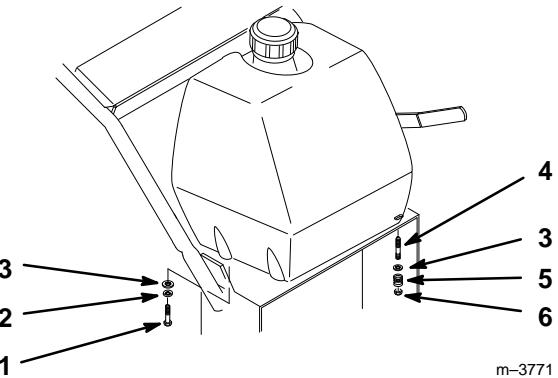

Figure 10
1. Align fuel tank to top of rear frame and secure fuel tank right side with (2) 5/16-18 x 7/8 in. (22.5 mm) bolts, (2) 5/16 lock washers and (2) 5/16 washers (Fig. 10).
3. Secure fuel tank left side to frame with (2) 5/16-18 x 7/8 in. (22.5 mm) studs, (2) 5/16 washers and (2) 5/16 locknuts (Fig. 10).